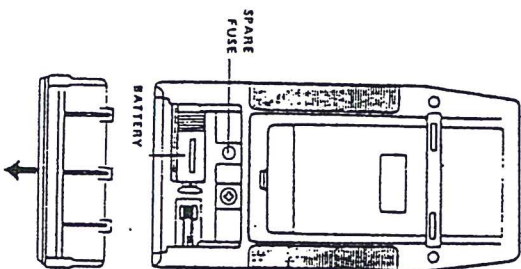

Fig 3
- (1) When the left corner of LCD display show "LO BAT", it is necessary to replace the battery. However In-spec. measurements may still be made for several hours after the "LO BAT" appears before the instrument becomes inaccurate.
- (2) Slide the battery cover (fig. 3), away from the instrument and remove the battery.
- (3) Replace with 9 V battery (006V DC 9V) and reinstall the cover.